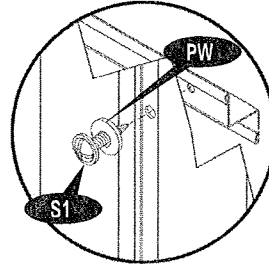

Fig. 4
8. Secure wall panels at the middle with (S1) screws and plastic washer (PW). See fig. 4.